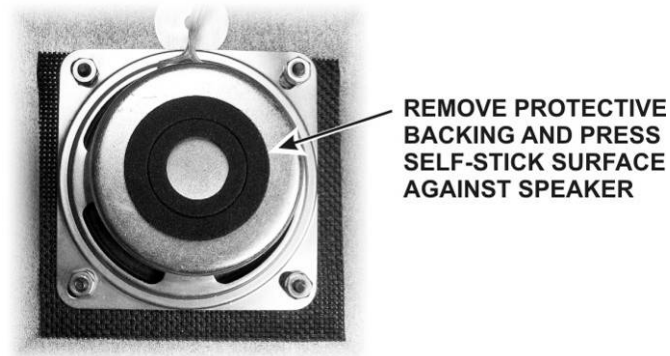

Figure 51. Attaching the Speaker Pad.
- Remove the covering over the self-adhesive side of the foam pad and press the adhesive side against the speaker magnetic shield (see Figure 51). The pad will compress between the loudspeaker and the top of the KRX3A enclosure when the cover is installed.